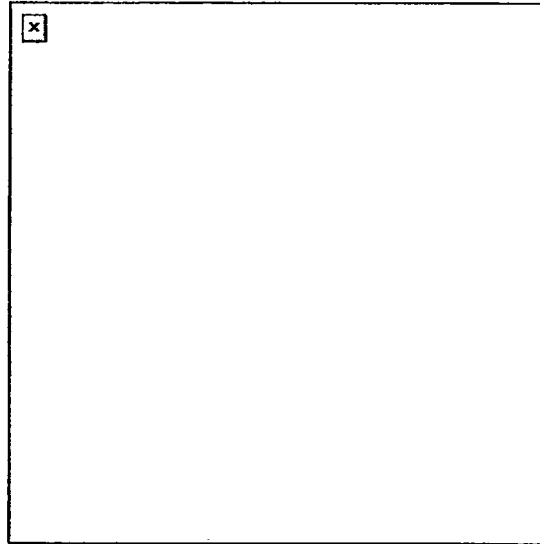

Figure 191-376-4119-3
- b. Break the seal and unlock by rotating the actuator counterclockwise as shown in Figure 191-376-4119-3 (A).
- d. Press the actuator with the index finger to release a stream of wet dibenzoxazepine (CR) as shown in Figure 191-376-4119-3 (B).